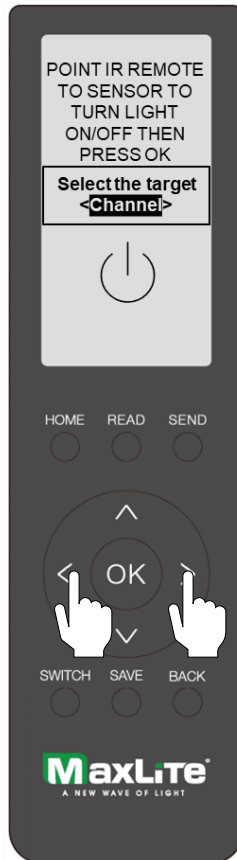

Fig 7B
2. Use the **LEFT**/**RIGHT** buttons to choose what you want to control: **LIGHT** (one light) or **CHANNEL** (all lights on that channel) (Fig. 7B).